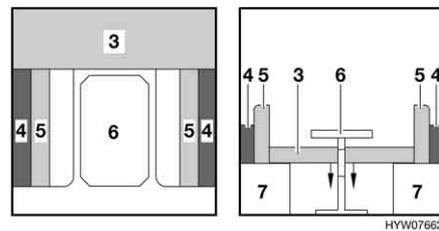

Fig. 95 During conversion
- Place the seat cushions (Fig. 95,5) in an upright position.
- Convert the table (Fig. 95,6) to a bed foundation (see section 6.11).